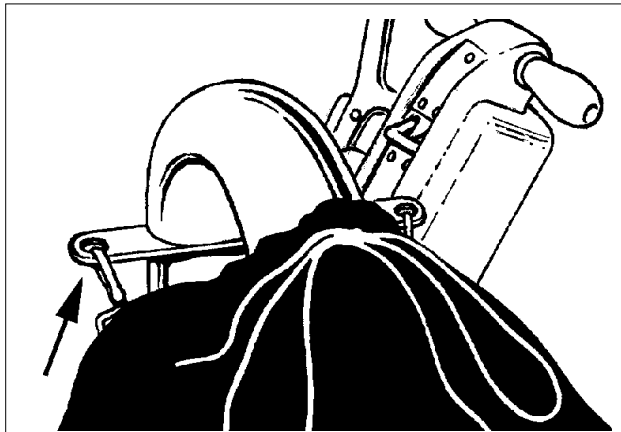

Figure 9
3. Clip the dust bag to the elbow. (See Figure 9) Cross the strings on the dust bag and draw tight over the flare on the elbow. Wrap the string around the elbow and secure.